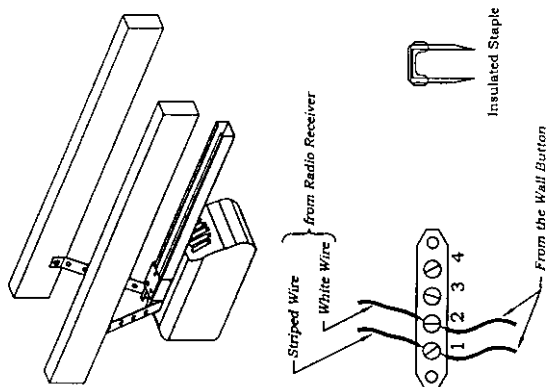

Figure 3-1
- CONNECT the white wire to one of the wall button terminals. (Figure 3-1)
- CONNECT the striped wire to the other wall button terminal. (Figure 3-1)